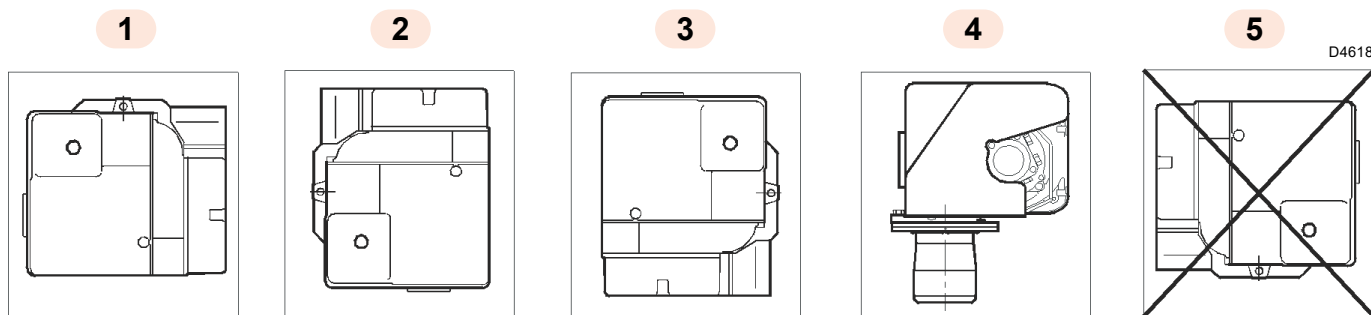

Fig. 5
- The burner is designed to operate only in the positions 1, and 3 (Fig. 5).